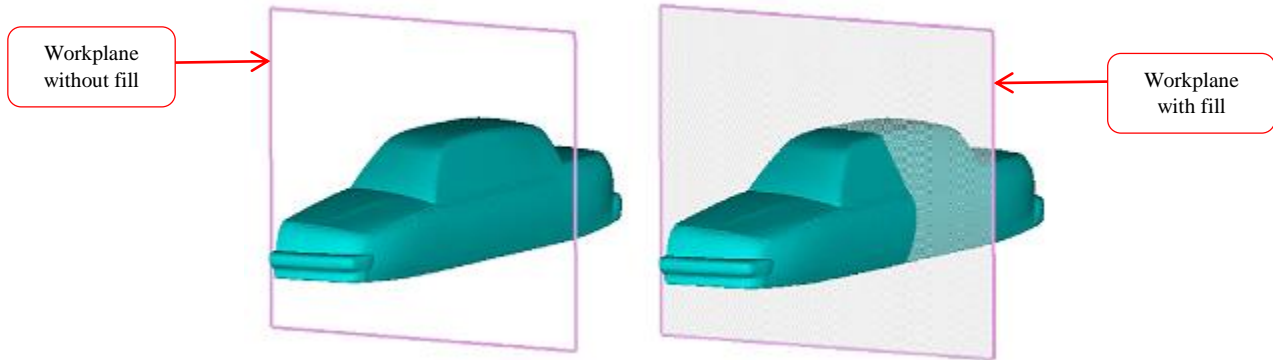

Figure 2.75: With and without fill for workplane
**Fill** operation of workplane serves as a visual aid. Clicking on the **Fill** option will leave the workplane rectangle shaded in translucent white. Usually, the **Fill** operation is most useful when a side of the surface is clipped and you want to better orient your eyes to the view screen. Essentially, the **Fill** operation locates the workplane for you, and allows you to view better 2 dimensional slices of a surface as seen in figure 2.75.